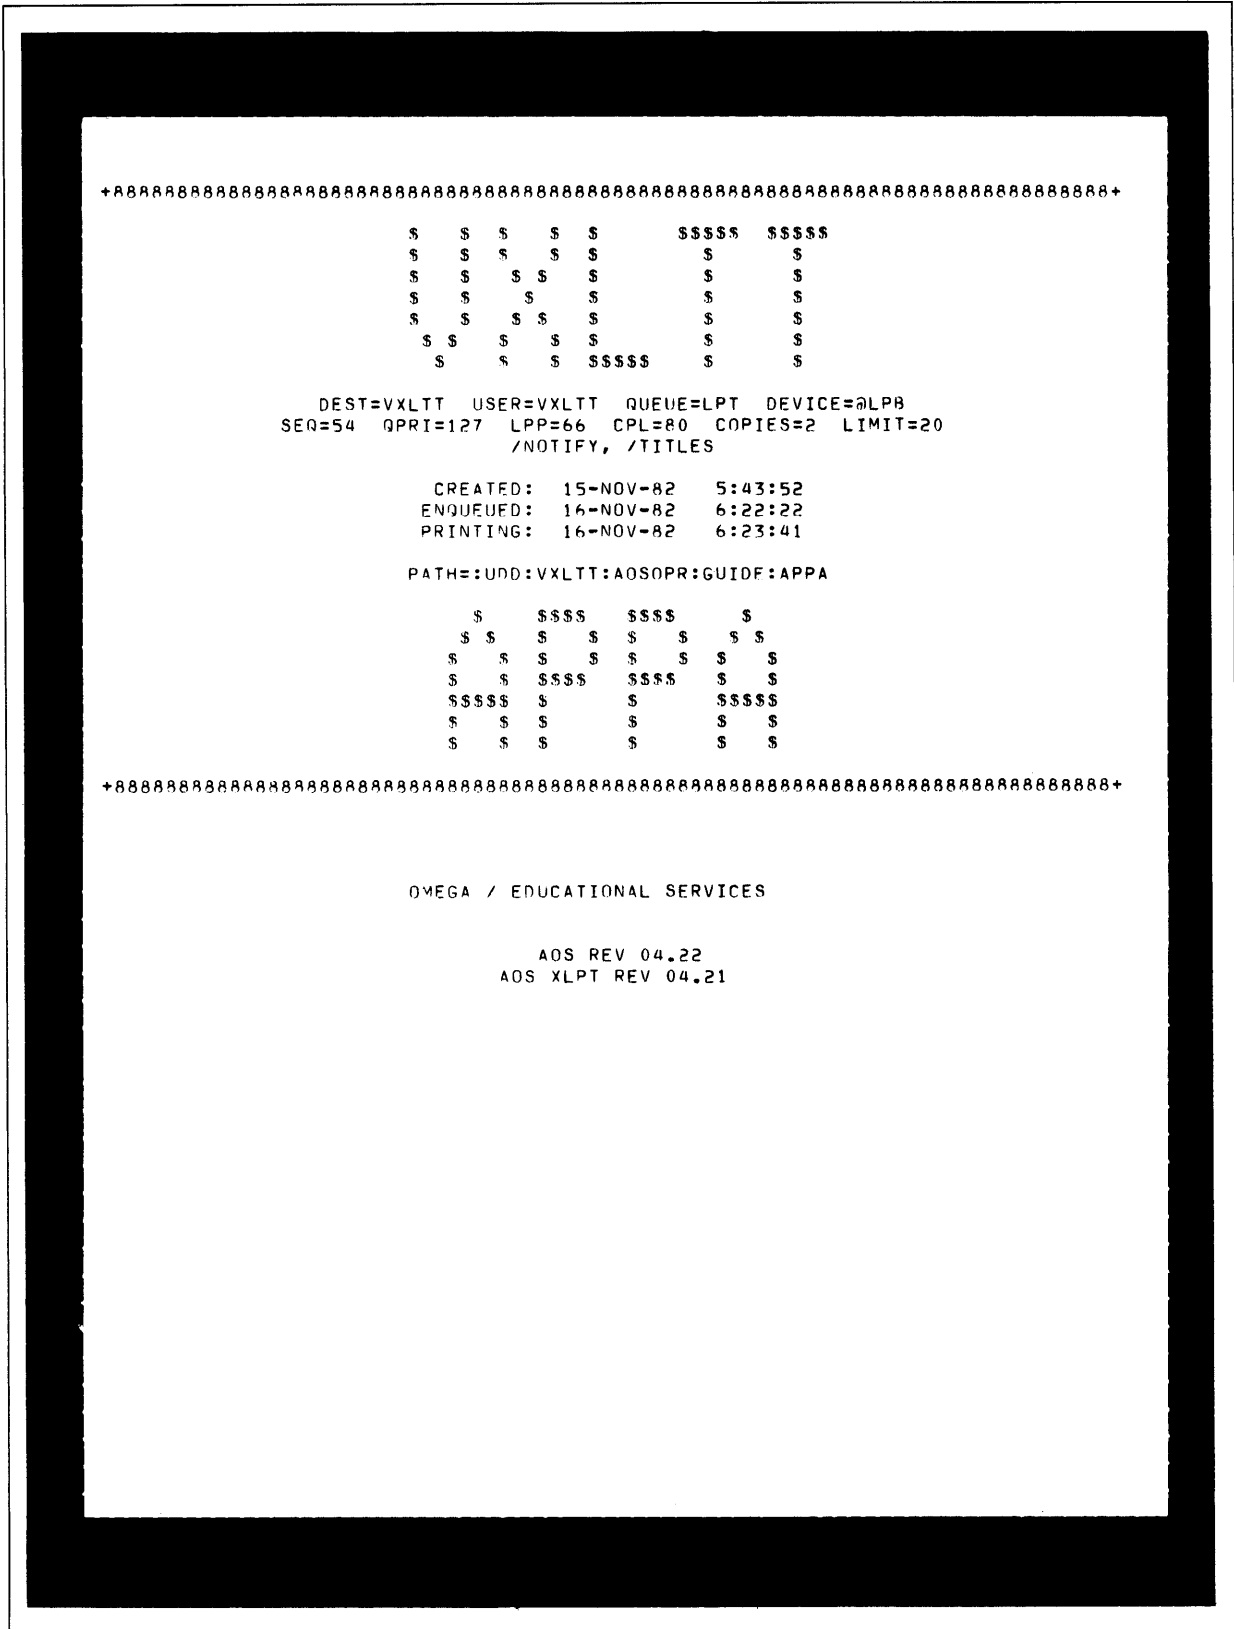

Figure 11.9 Sample Header Page
**Note:** See Figure 11.9 for example.**TRAILERS**